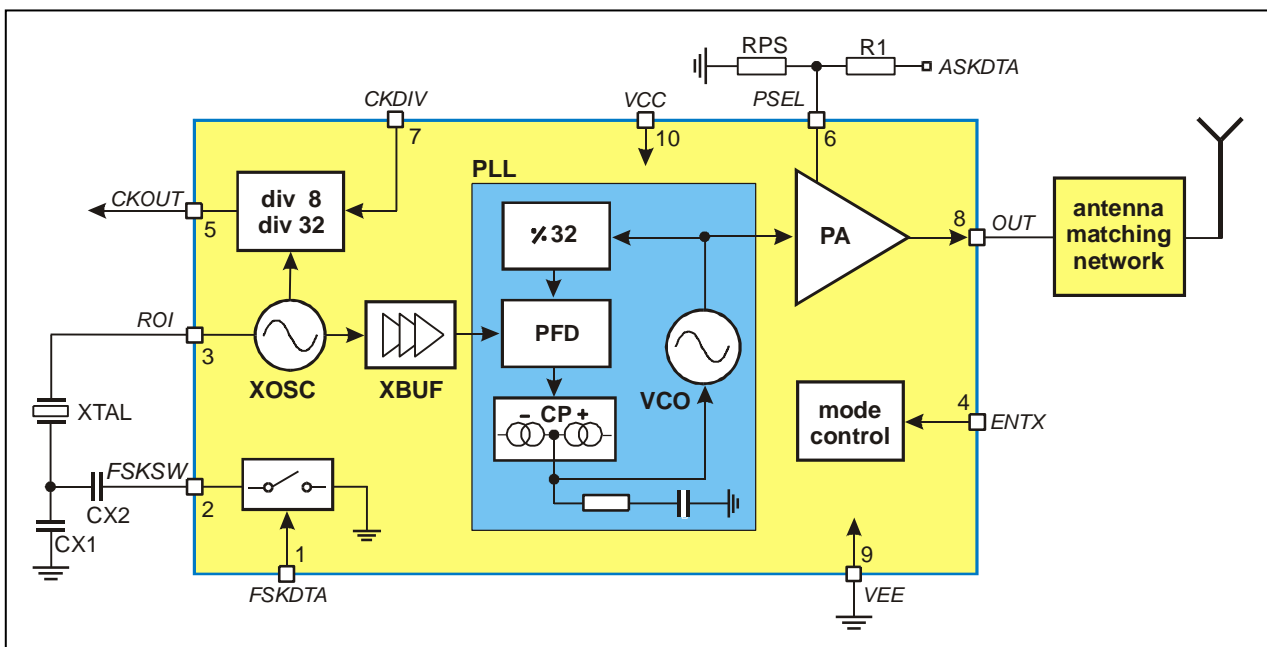

Fig. 1: Block diagram with external components
As depicted in Fig.1, the TH72036 transmitter consists of a fully integrated voltage-controlled oscillator (VCO), a divide-by-32 divider (div32), a phase-frequency detector (PFD) and a charge pump (CP). An internal loop filter determines the dynamic behavior of the PLL and suppresses reference spurious signals. A Colpitts crystal oscillator (XOSC) is used as the reference oscillator of a phase-locked loop (PLL) synthesizer. The VCO's output signal feeds the power amplifier (PA). The RF signal power P_{out} can be adjusted in four steps from $P_{out} = -11$ dBm to +9.5 dBm, either by changing the value of resistor RPS or by varying the voltage V_{ps} at pin PSEL. The open-collector output (OUT) can be used either to directly drive a loop antenna or to be matched to a 50Ohm load. Bandgap biasing ensures stable operation of the IC at a power supply range of 1.95 V to 5.5 V.